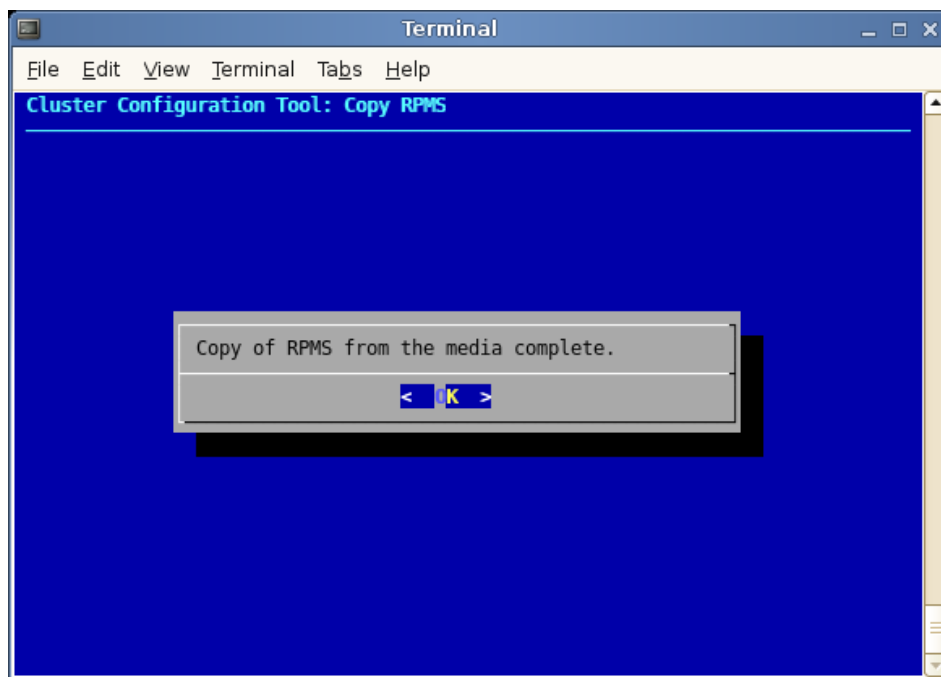

Figure 2-14 Copy RPMS Screen Three
27. The Copy of RPMS from media complete message appears, as shown in Figure 2-14 on page 42. Click **OK** to continue.